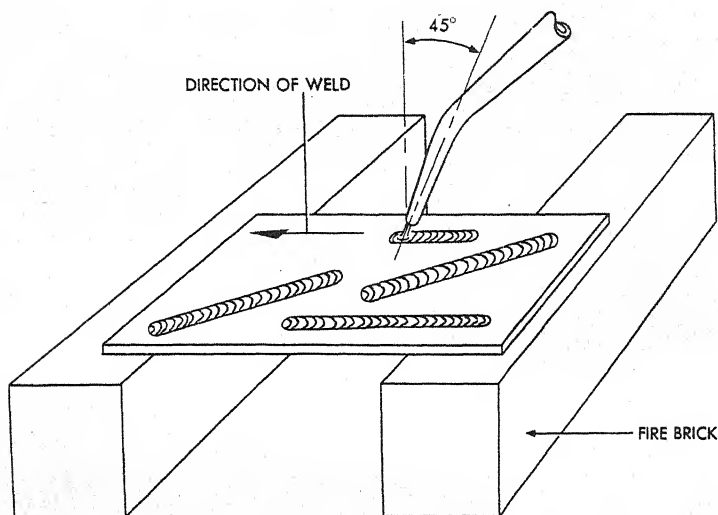

Figure 150. — Running a bead without a filler.
*Running a bead without a filler in the flat position should be your No. 1 job. A bit of help and supervision from a rated Metalsmith is a must on your first welding job. Take a look at figure 150. You're not going to weld two pieces together in a job like this; but you're just going to run a bead. Select a piece of stock  $\frac{1}{8}$  by 2 by 4 inches. Place this piece on two firebricks so that the part to be heated will not contact the bricks. Use a No. 2 torch tip. Adjust the flame to neutral or slightly carburizing. Avoid an oxidizing flame. Don't forget your goggles and gloves. If you are right-handed,*
start at the right and work to the left. Hold the torch tip so that it makes an angle of  $90^\circ$  across the line of the weld. Direct the inner cone of the flame at a point near the right edge of the metal and hold it there until a molten puddle forms. Keep the tip of the cone from  $\frac{1}{16}$  to  $\frac{1}{8}$  inch away from the surface of the molten metal. As soon as your puddle is formed, move the torch slowly forward with the weaving motion shown in figure 150. Both the forward motion and the weaving motion